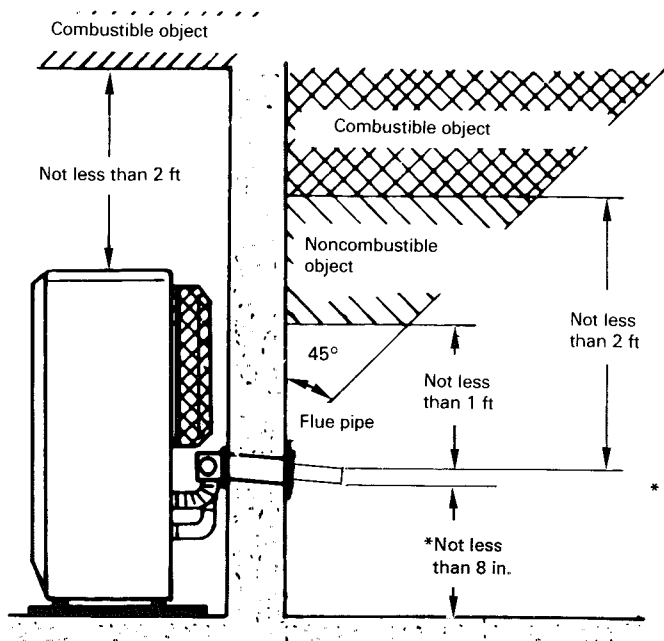

Fig 2
2. Make sure that the outside area to where the flue pipe will reach is clear of any objects. (See Fig. 2 & 3)